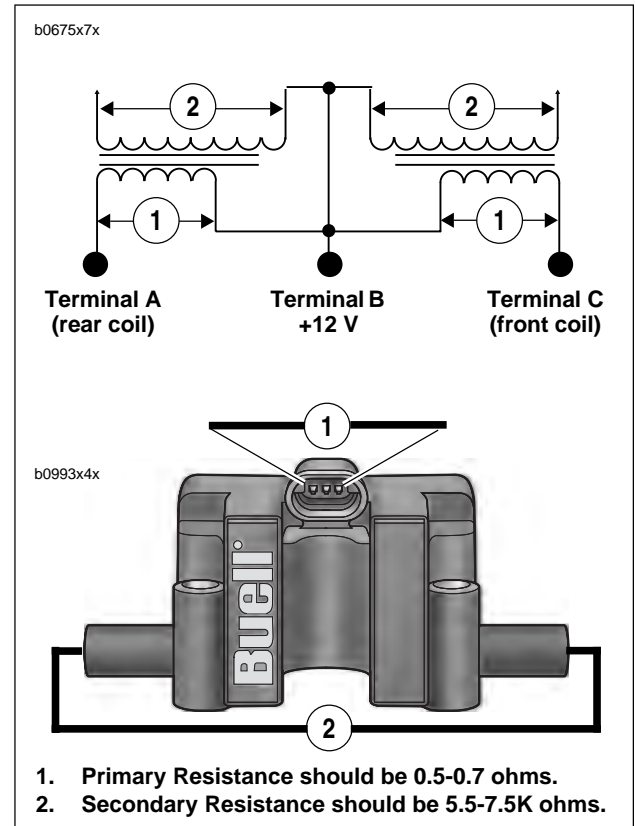

Figure 4-70. Ignition Coil Testing
3. See Figure 4-70. Place multimeter wires on primary coil windings (1).
3. See Figure 4-70. Place multimeter wires on secondary coil windings (2).